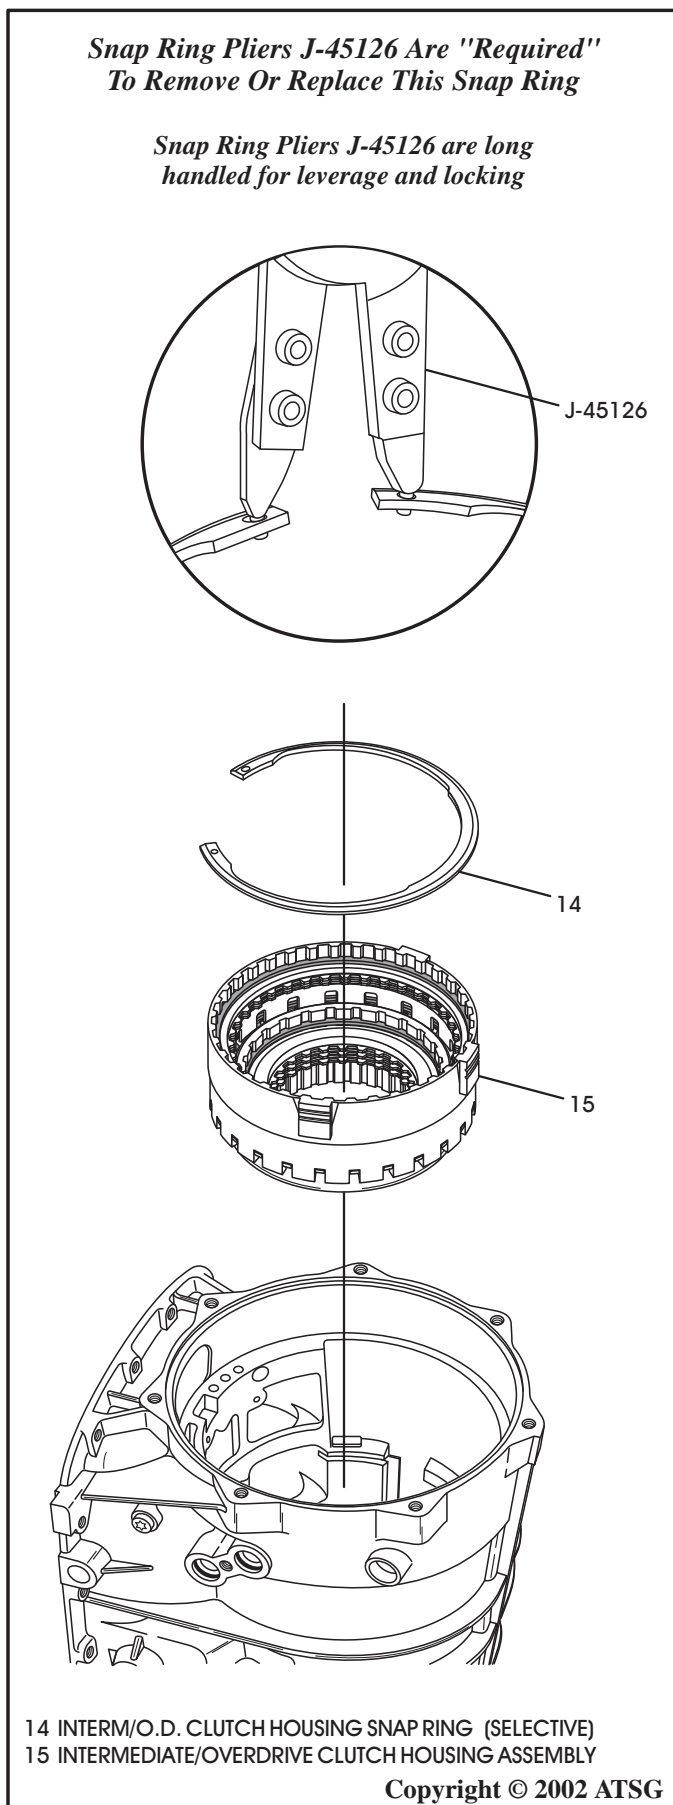

Figure 50
41. Remove the "Selective" snap ring retaining the overdrive clutch housing in the case, using the Snap Ring Pliers J-45126 (See Figure 50).
42. Use caution when removing or installing this snap ring, as the snap ring is very thick and very strong. Ensure that you have the J-45126 snap ring pliers engaged properly, as shown in Figure 50.
43. Remove the overdrive clutch housing from the case, as shown in Figure 50, and set aside for the component rebuild section.